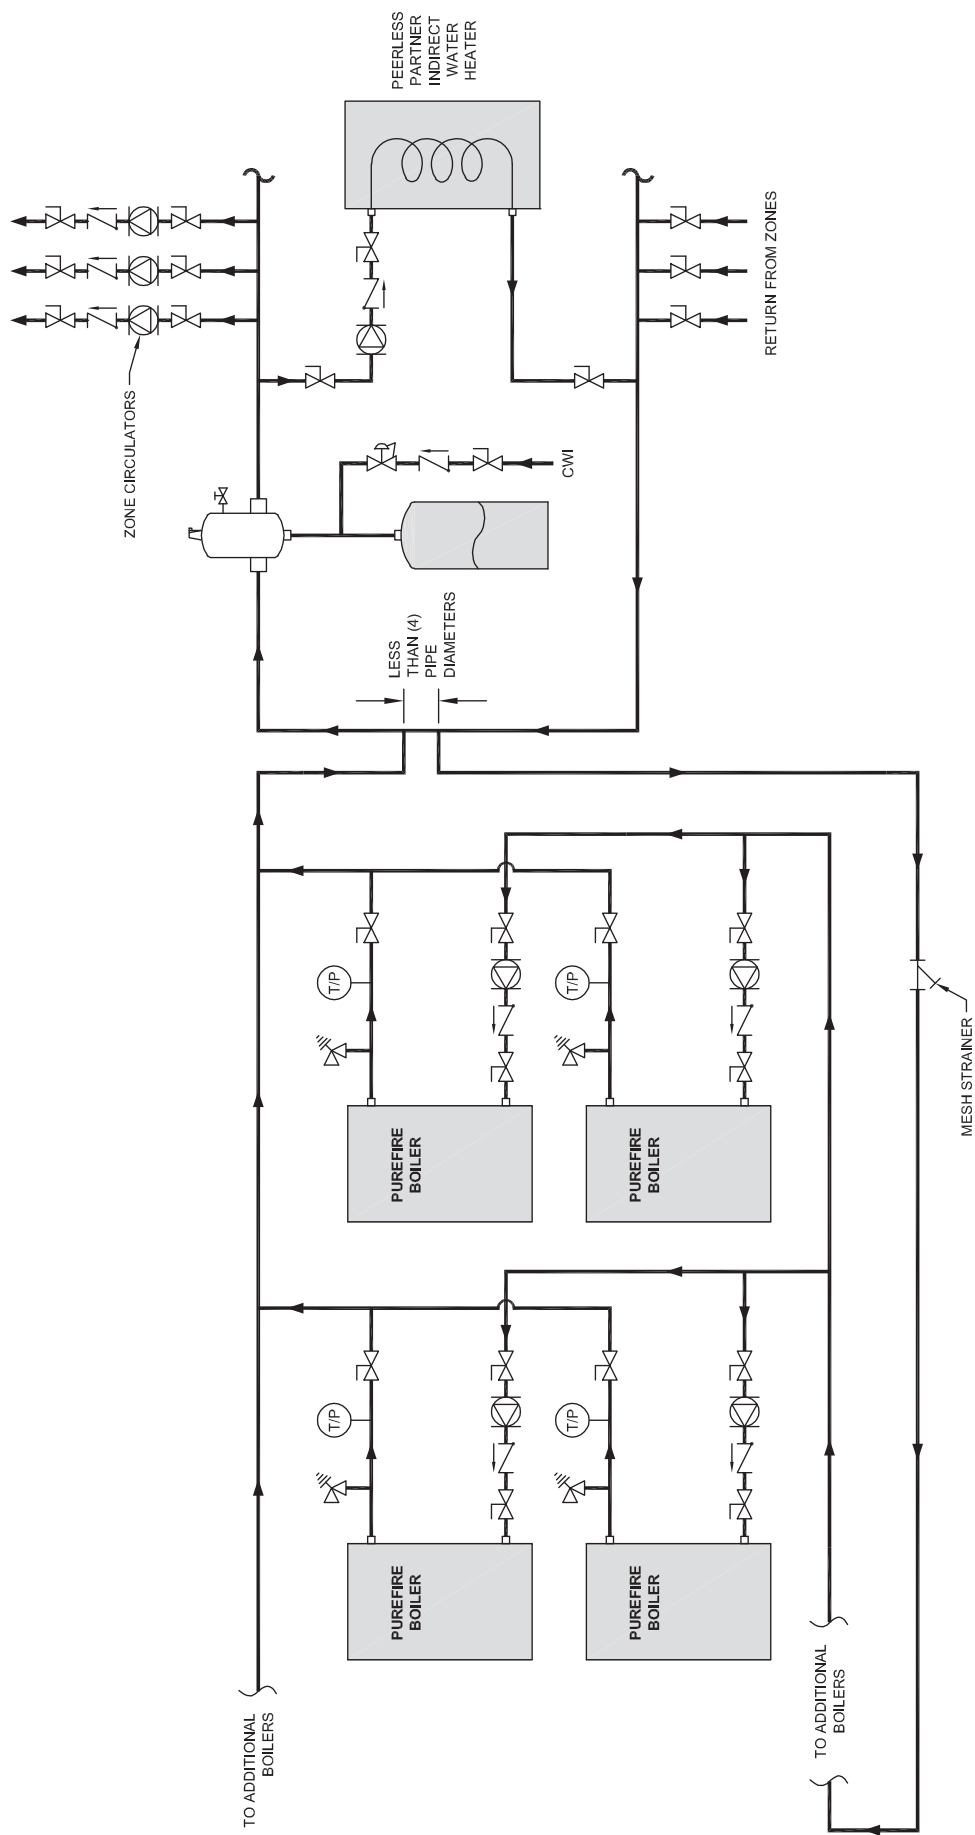

Figure 4.5: Recommended Piping – Multiple Boilers with Multiple CH Zones & One DHW Tank
2. The configuration illustrated in Figure 4.5 is for multiple boilers. This figure shows an indirect DHW tank in parallel with the heating zones. Notice that the return to the boilers from the closely spaced tees in the primary secondary arrangement is reverse return to provide similar lengths of piping through each boiler. This configuration shows the boilers in groups of two to take advantage of the *PUREFIRE*® PF-850, PF-1000 or PF-1500 stacking capability.